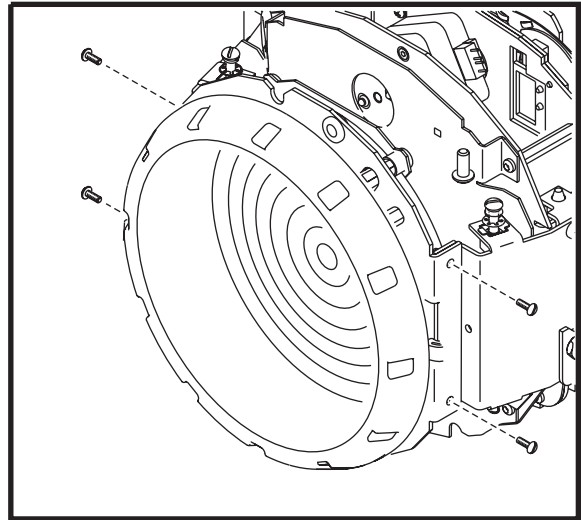

Figure 9: Removing the front lens
3. See Figure 9. Prepare to hold the front lens assembly as it is released, then remove the four retaining screws and remove the assembly.